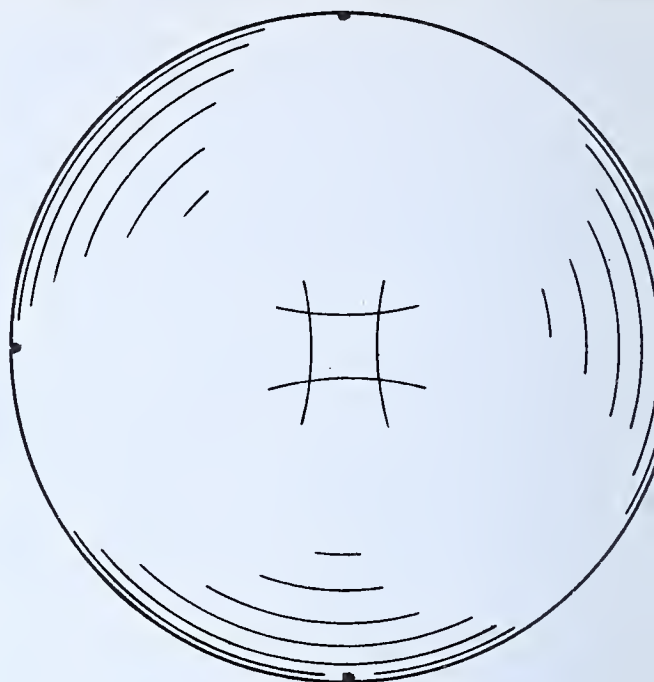

FIG. 273 — Step 13
13. Place one trammel point consecutively in each center-punch mark made in Step 11, and scribe an arc near the center of the head as shown in Fig. 273.